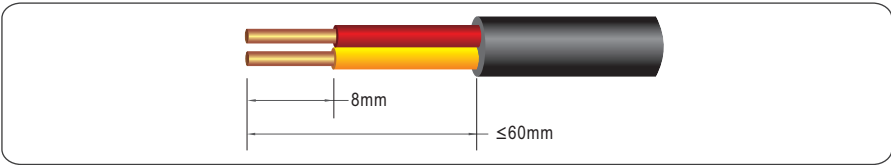

Figure 5.19 Stripping an RS485 communication cable (unit: mm)
**Step 1** Remove an appropriate length of the insulation layer from the cable using a wire stripper, as shown in Figure 5.19.